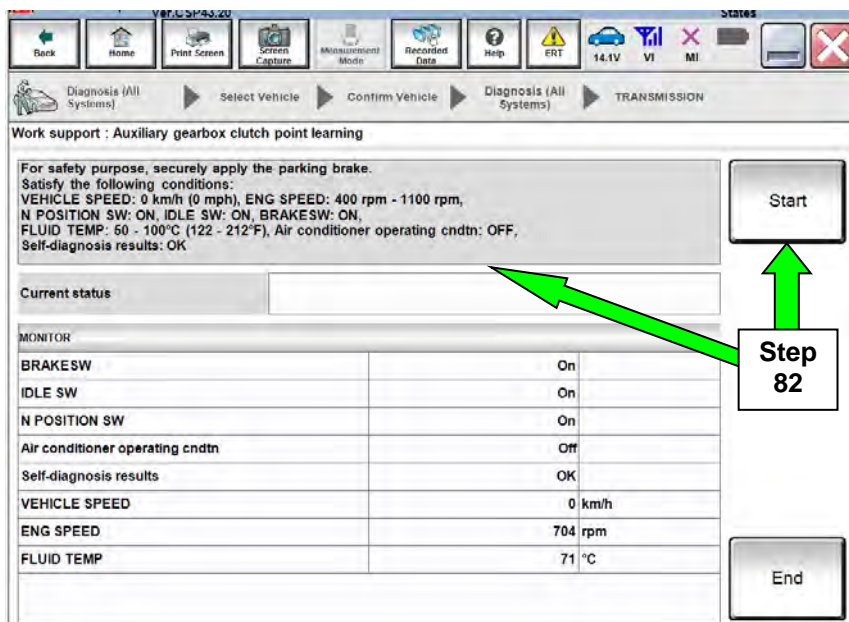

Figure 42
82. Follow the on-screen instructions in Figure 42, and then select **Start**.